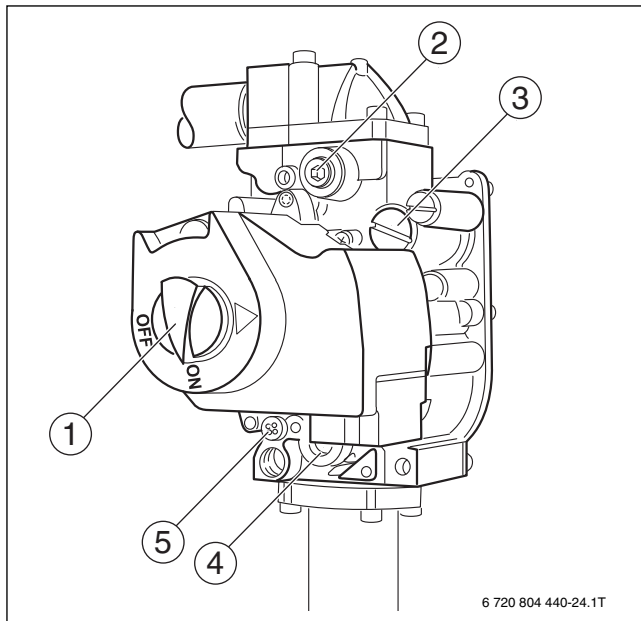

Fig. 24 Gas valve
- ▶ Compare the orifice pressure with the values in table 10 (→ page 17). If it differs by more than 0.2" W.C., adjust accordingly. To set the orifice pressure, the protective screw on the gas valve must be removed (→ figure 24, page 17). Turn the adjustment screw clockwise to increase the pressure, and counterclockwise to reduce the pressure. This setting must be adjusted while the boiler is operating.